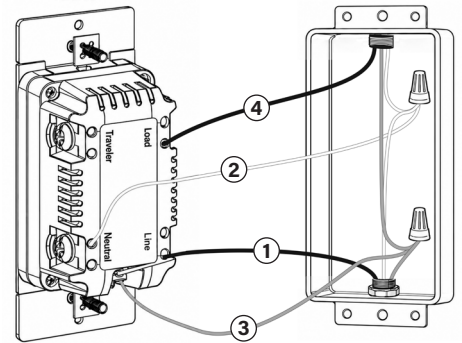

Figure 2
- Connect the timer to the wall box wires as shown. (See Figure 2)
- Connect the Line wire (1) to the LINE terminal of the timer.
- Connect the Load wire to the LOAD (4) terminal of the timer.
- Connect the Ground wire (3) to the GROUND terminal of the timer.